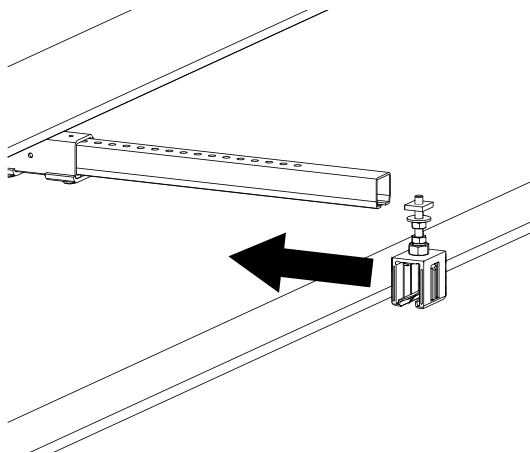

Fig. 51: Slide the first hanger clamp onto the support arm
- Slide the first hanger clamp onto the support arm/C-rail (see Fig. 51). Please refer to the project-specific documents for the exact dimensions.